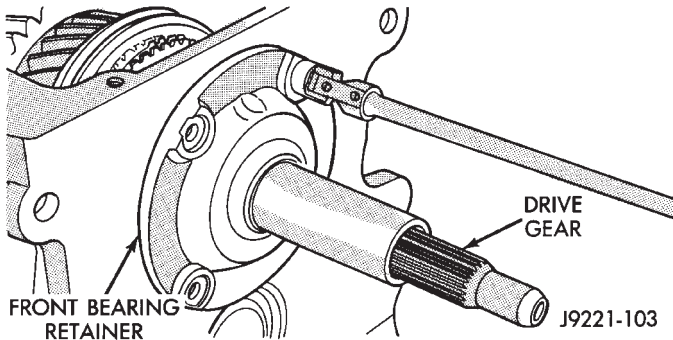

Fig. 127 Installing Front Bearing Retainer
(10) Align front bearing retainer bolt holes and tap retainer into place with plastic mallet. Install and tighten retainer bolts to 30 N·m (265 in. lbs.) torque (Fig. 127). **Use new retainer bolts. Do not reuse the old ones.**